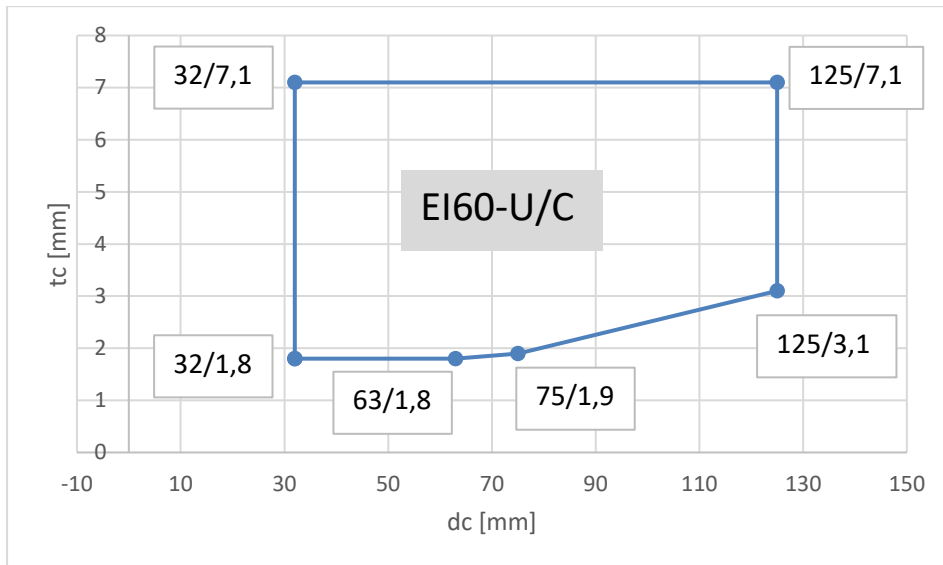

Figure 47: Classified range for PP-pipes, sealed with CFS-B in CFS-CT HDB
Classification given in Figure 47 is valid for:
- For dimension refer to Figure 47